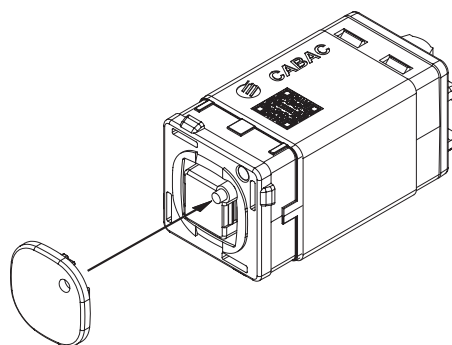

Figure 2: Attach button to HNS610DT
- Clip the button on to the HNS610DT. Ensure that the button is oriented so that the LED light pipe is aligned with the hole in the button, refer to Figure 2, before attaching it to the wall plate.